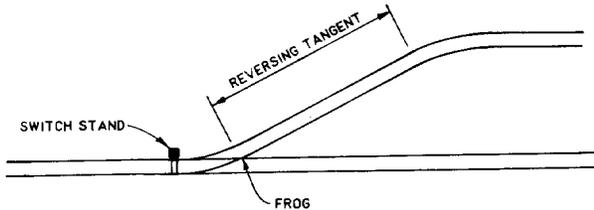

Figure 8-2. Reversing tangent length and switch stand placement.
- (1) Be factory designed and constructed.
- (2) Be the proper type and size.
- (3) Be properly installed.
- (4) Not be flame cut or otherwise altered.
e. *Reversing tangent.* It is recommended that the tangent between the frog and any reverse curve past the frog be no less than 50 feet in length as shown in figure 8-2.
(1) The switch stand shall be installed so that when the switch is lined for the normal (main) route, the connecting rod keeps the points closed with a pulling (rather than a pushing) force. In most cases this will mean installing the stand on the diverging side of the turnout as shown in figure 8-2.
(2) When a ground-throw stand is used, the handle shall point toward the frog when the switch is lined for the normal (main) route.